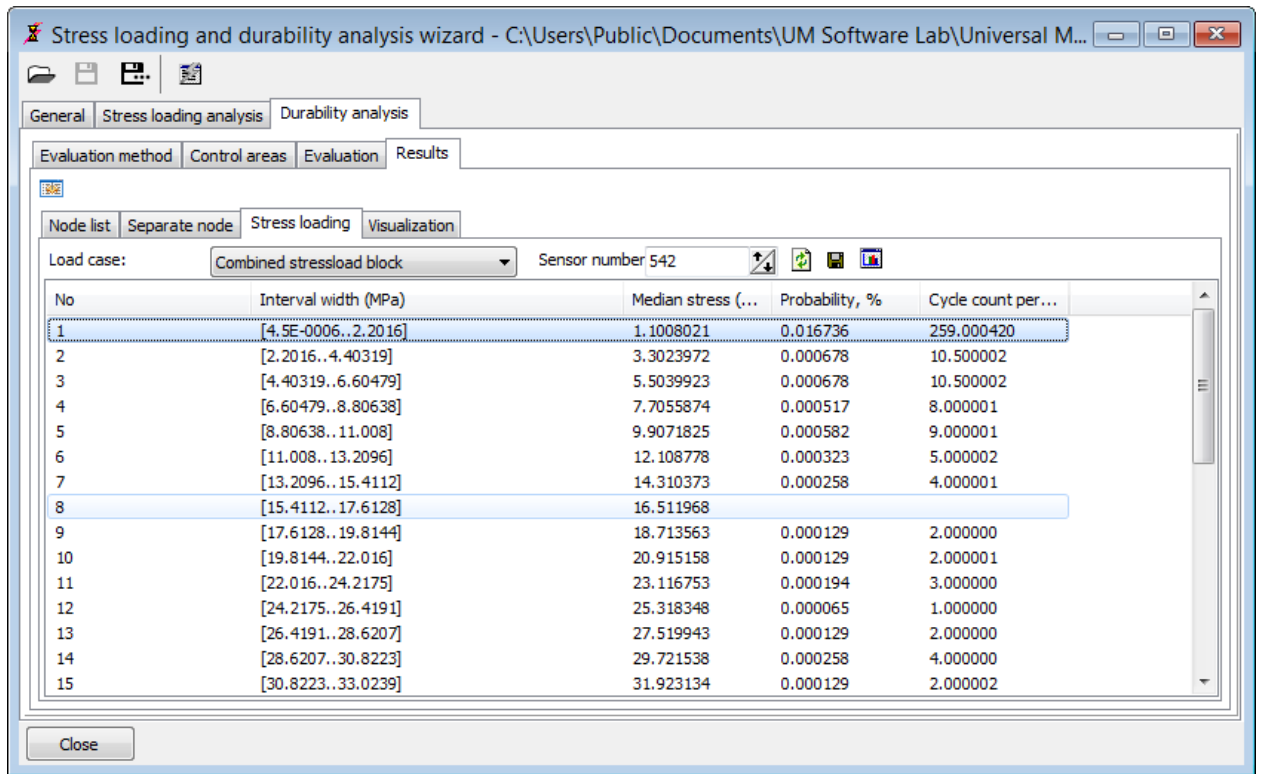

Figure 2.40. Results: stress loading
5. Input node number **592** and select the load cases to display distribution in table form, see Figure 2.40.